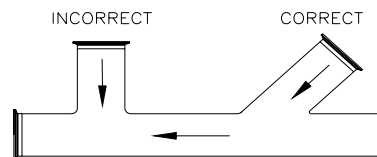

Figure 24
- Avoid abrupt transitions in the piping system (**Figure 24**).